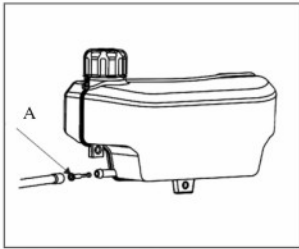

Fig. 14 A.fuel strainer
3. Reinstall the fuel strainer (A) and fuel line. (See Fig. 14)